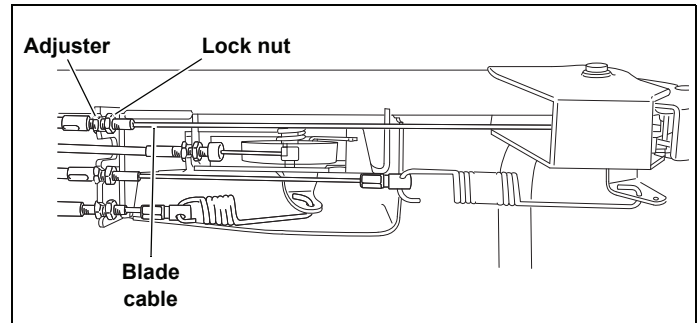

Fig. 5-8
1. If adjustment is necessary, adjust by turning the adjuster and loosening the lock nut on the blade cable. Fig. 5-8
2. Set the adjuster to the optimal position and tighten the lock nut. Fig. 5-8